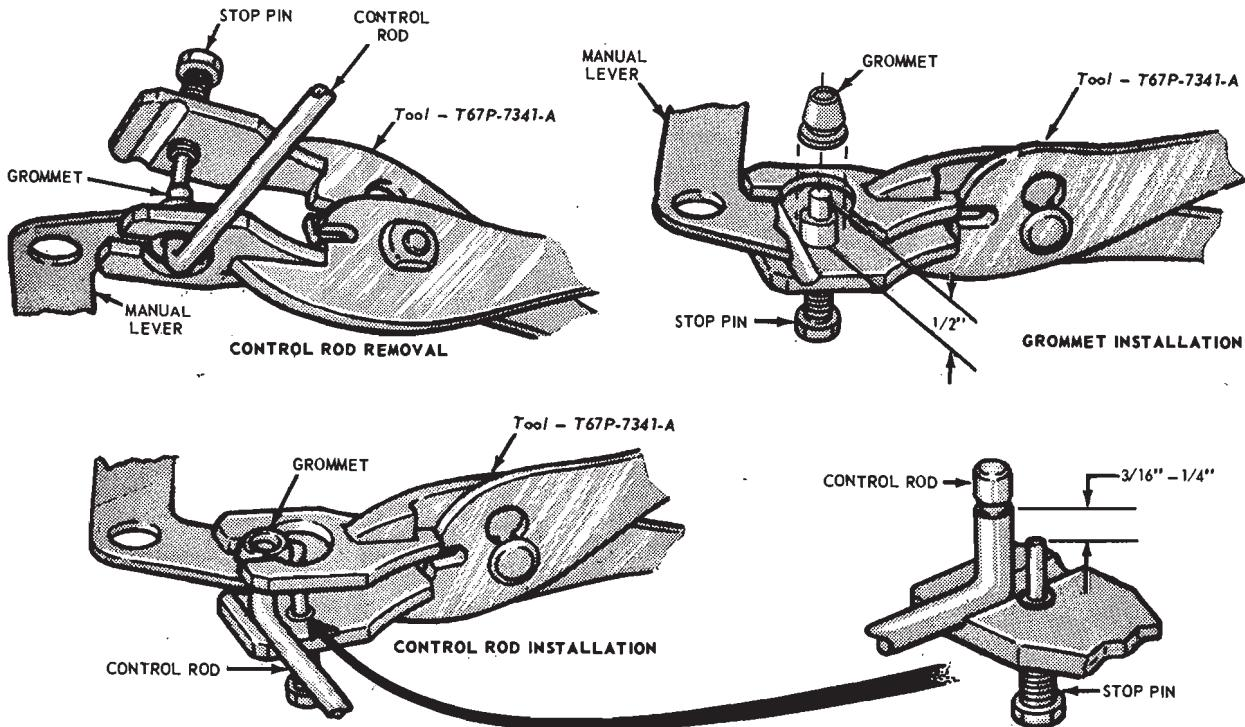

FIG. 18—Removing or Installing Shift Linkage Grommet
1. Place the lower jaw of the tool between the manual lever and the control rod. Position the stop pin against the end of the control rod (Fig. 18) and force the rod out of the grommet. Remove the grommet from the manual lever by cutting off the
3. Readjust the stop pin to the height shown in Fig. 18. The pin height is determined by the length of the rod end which is to be installed into the grommet. If the pin height is not adjusted, the control rod may be pushed too far through the grommet causing damage to the grommet retaining lip.